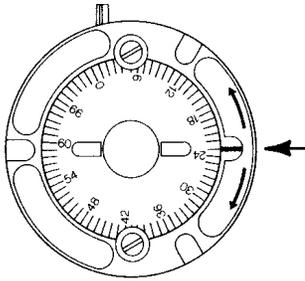

Figure 7.11.5
- E. Turn the T-125 base over so that the timing disk is facing you. Loosen the timing disk retaining screw. Scribe a mark on the timing disk corresponding to the index mark on the T-125 base. This represents a point-of-reference for primary point "E" gap. (See Figure 7.11.5.)